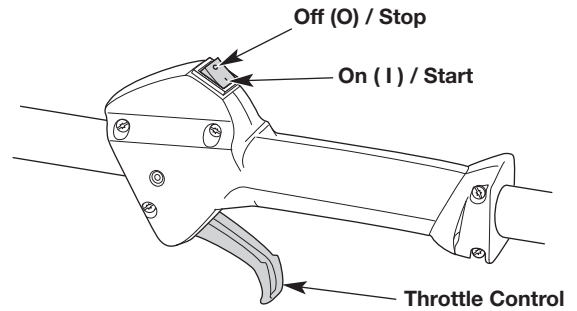
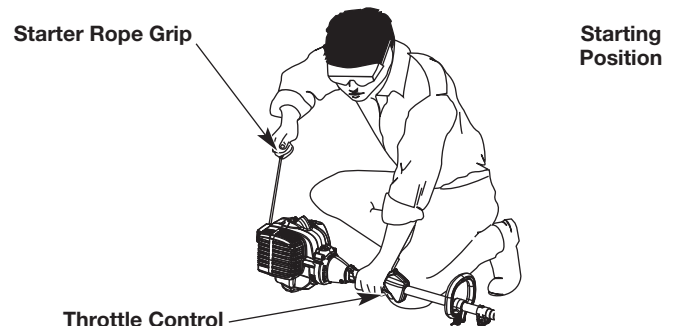

Fig. 7
Fig. 10
**WARNING:** Avoid accidentally starting the unit. To avoid serious injury, the operator and the unit must be in a stable position when pulling the starter rope (Fig. 10).
**NOTE:** There is no need to turn the unit on. The On/Off switch is in the ON (1) position at all times (Fig. 7).
5. Crouch in the starting position (Fig. 10).
6. Squeeze the throttle control (Fig. 7) and pull the starter rope with a controlled and steady motion **5 times** (Fig. 10).
2. Press and hold the On/Off switch in the OFF (O) position until the engine comes to a complete stop (Fig. 7).